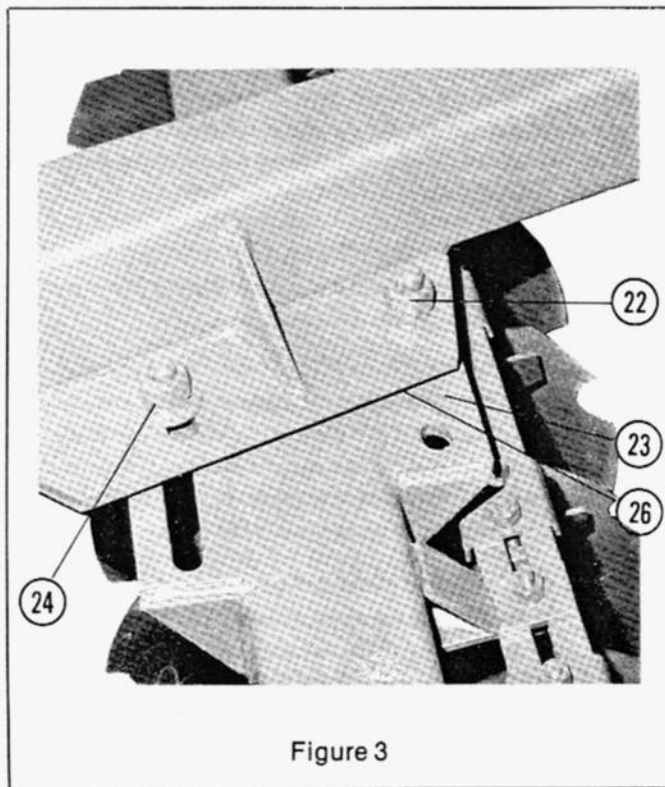

Figure 3
- 3. Offsetting Rear Gang Bar:** (Refer to Figure 3) for ordinary conditions bolt(22) should be in the centre of lateral plate(23). When using disc as a double wide unit the rear gang bar is adjusted to maximum width to fill furrow. Remove two bolts(22), loosen bolt where slots are(24), adjust laterally then retighten all bolts.
- B. Side to Side Leveling:** (Refer to Figure 3) In general, adequate levelling from side to side may be obtained by placing leveling washers(26) between angling plate on frame and gang bar. leveling washers are always used on narrow side(N) of disc only.